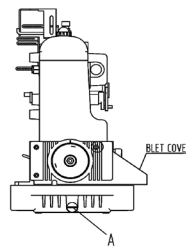
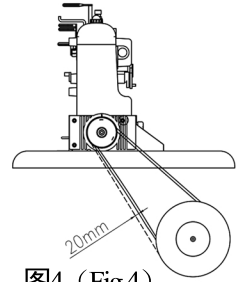
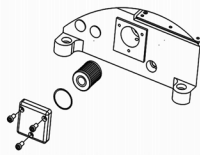

图3 (Fig.3)
图4 (Fig.4)
图7 (Fig.7)
2、马达转向为顺时针方向，皮带的松紧度以手指向内压下20mm宜为，同时为安全起见，把皮带轮盖必须锁上。(图3&4)
2、Mount the machine head over the rest board Connect the machine hand wheel to the clutch motor with the V-belt.Adjust the tension of the V-belt so that it can be about 20 mm bent inward when you presse the center of V-belt and make sure the clutch motor turning direction is clockwise as shown Figure 3.Install the belt cover according to Figure 4.
(2) 润滑油的更换 (图3)
(3) 滤油器的更换 (图7)
- Loosen Knob (A) fill in with accompanied super-high-speed lubricant oil its equivalent such as Mobil#10 or #32,until the oil up be-fween two marks :(Fig.3)
2. Lubricant oil change :(Fig.3)
- Loosen Knob (A) drain oil from the tank, then tight it up.
3. Replacing oil filter: (Fig.7)